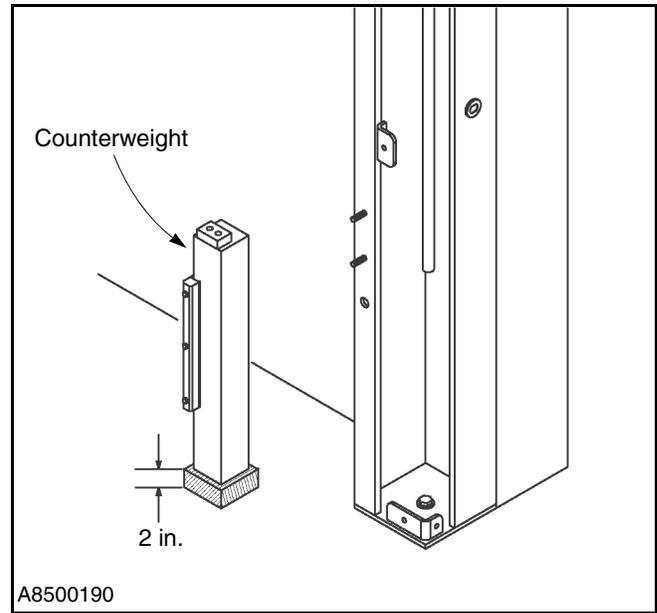

Figure 19
- Place a counterweight on a 2 in. block in front of each side column with the guide on the weight facing the outside edge of the side column. (See Figure 19.)